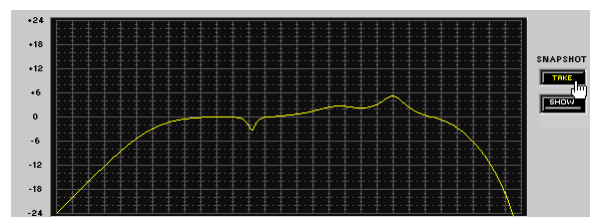

FIGURE 5-2: Taking a Snapshot
1. Click the [TAKE] button as shown in Figure 5-2. This captures the current response or transfer curve.